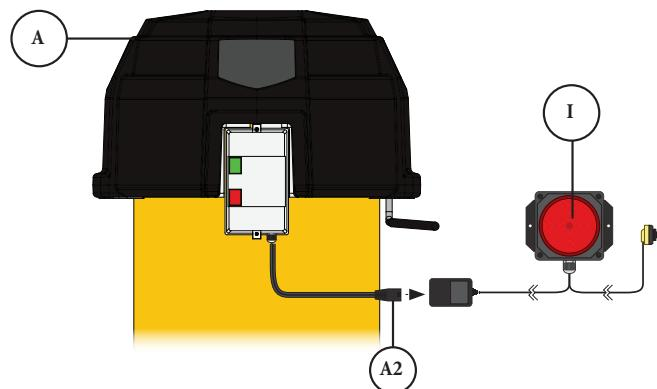

FIG. 24
- 24** Connect the Dust Sentry's power adapter (I) to the Dust Sentry Cord (A2) on the Motor Assembly's (A) magnetic starter [FIG. 24]. The Dust Sentry's strobe light (I) should be mounted in a highly visible area using adhesive strips or the two mounting holes.